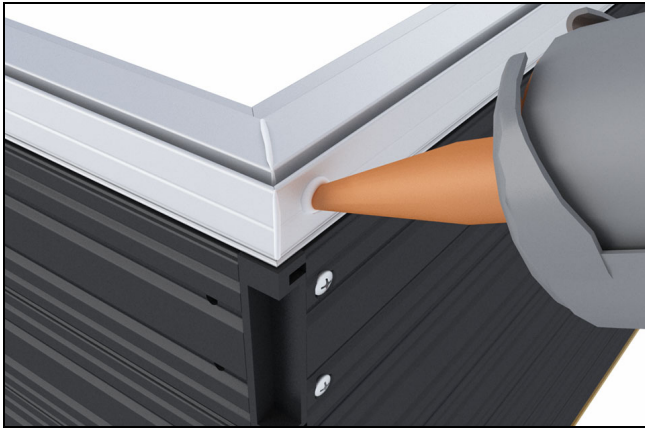

Figure 21
9. Inject both frame cladding corner key holes with sealant until squeeze out occurs. Fasten using a #8 x 1 1/2" flat head screw into each corner key. See figure 21.